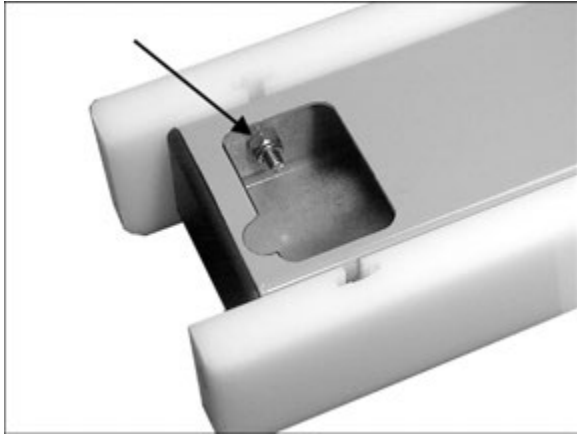

Figure 6-19
1. Turn fence upside down and loosen lock nuts with a 10mm wrench through the slots (Figure 6-19). **Note:** A socket wrench can fit into the slot, and will speed the process.